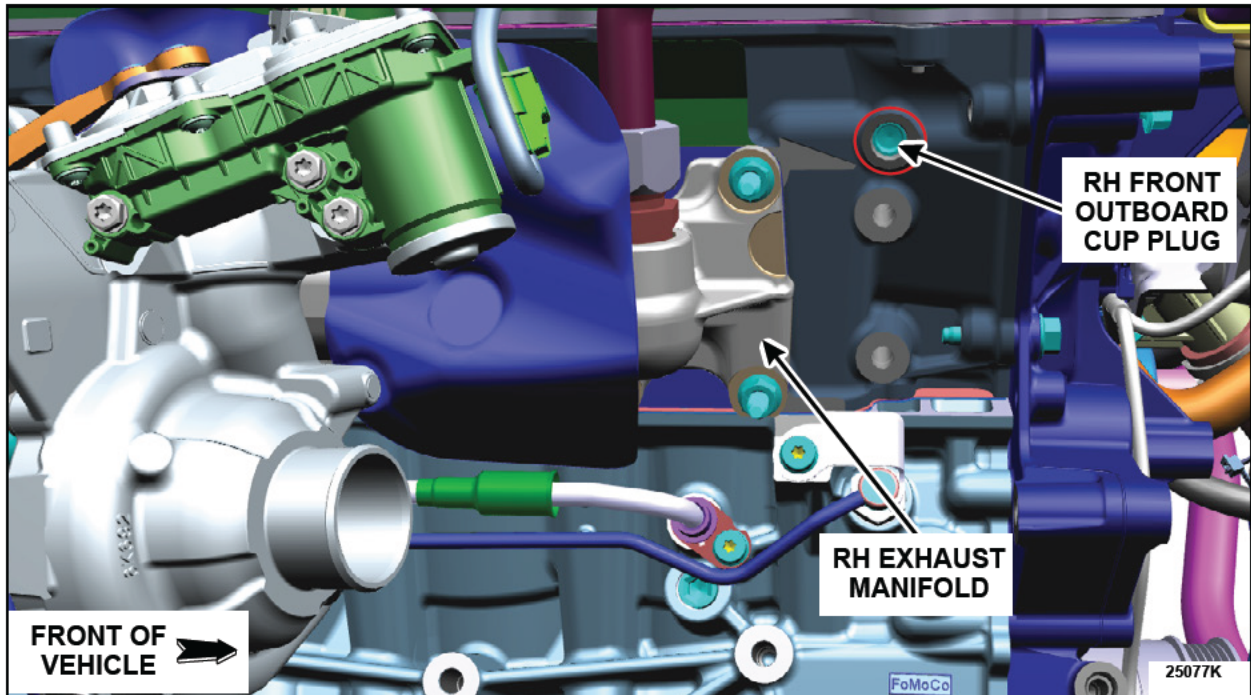

FIGURE 11
3. Through the RH wheel well, identify the RH front outboard cup plug located beside the RH exhaust manifold. See Figure 11.